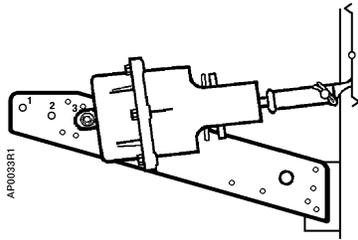

Figure 7. No. 6 Actuator Frame Mounting, Normally Closed Damper.
- a. Normally closed damper: attach plate to lug (Figure 7). Place pivot post in Hole 3.